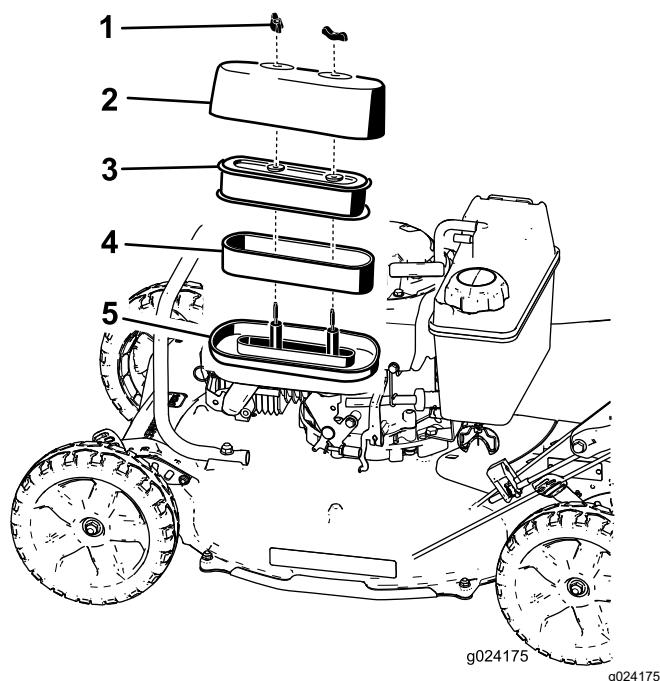

Figure 20
3. Remove the 2 nuts that secure the cover (Figure 20).
5. Remove the foam and paper elements from the base of the air cleaner (Figure 20).
6. Remove the foam element from the paper element (Figure 20).